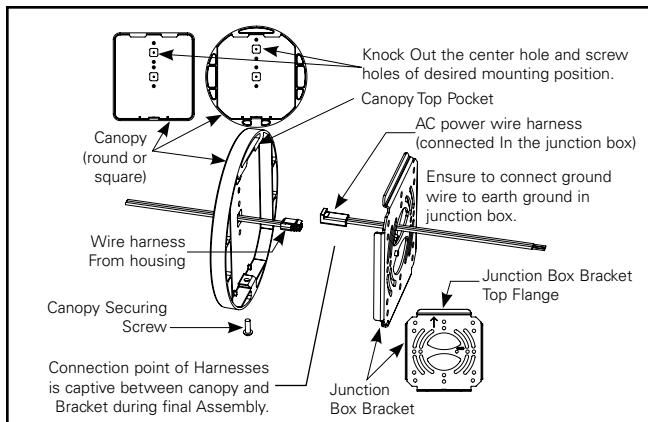

Figure 1.
- Pass the connector end of the AC Power Wire Harness through one of the center slots of the Junction Box Bracket so that it will be accessible when the fixture is mounted (See Figure 1).
- Retrieve the canopy and identify the mounting location you intend to use. Remove the center hole and adjacent screw hole knockouts for the desired position (See Figures 1 and 4). **THIS IS A NON-REVERSIBLE PROCESS** so take care to confirm your selection. If the unit is to be ceiling mounted, the centrally located set of holes is advised for aesthetic reasons.